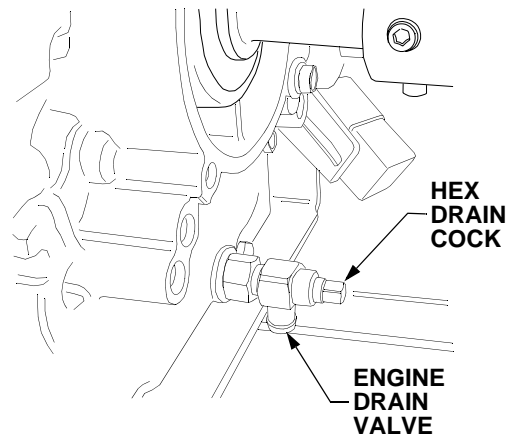

Figure 53
- Locate the engine drain valve on the rear of the engine (See Figure 53). Place a suitable container below the open end of the drain valve to collect the old oil.
- Turn the valve drain cock fully clockwise to close the valve, and clean any residual oil from the valve. Refer to Figure 53.